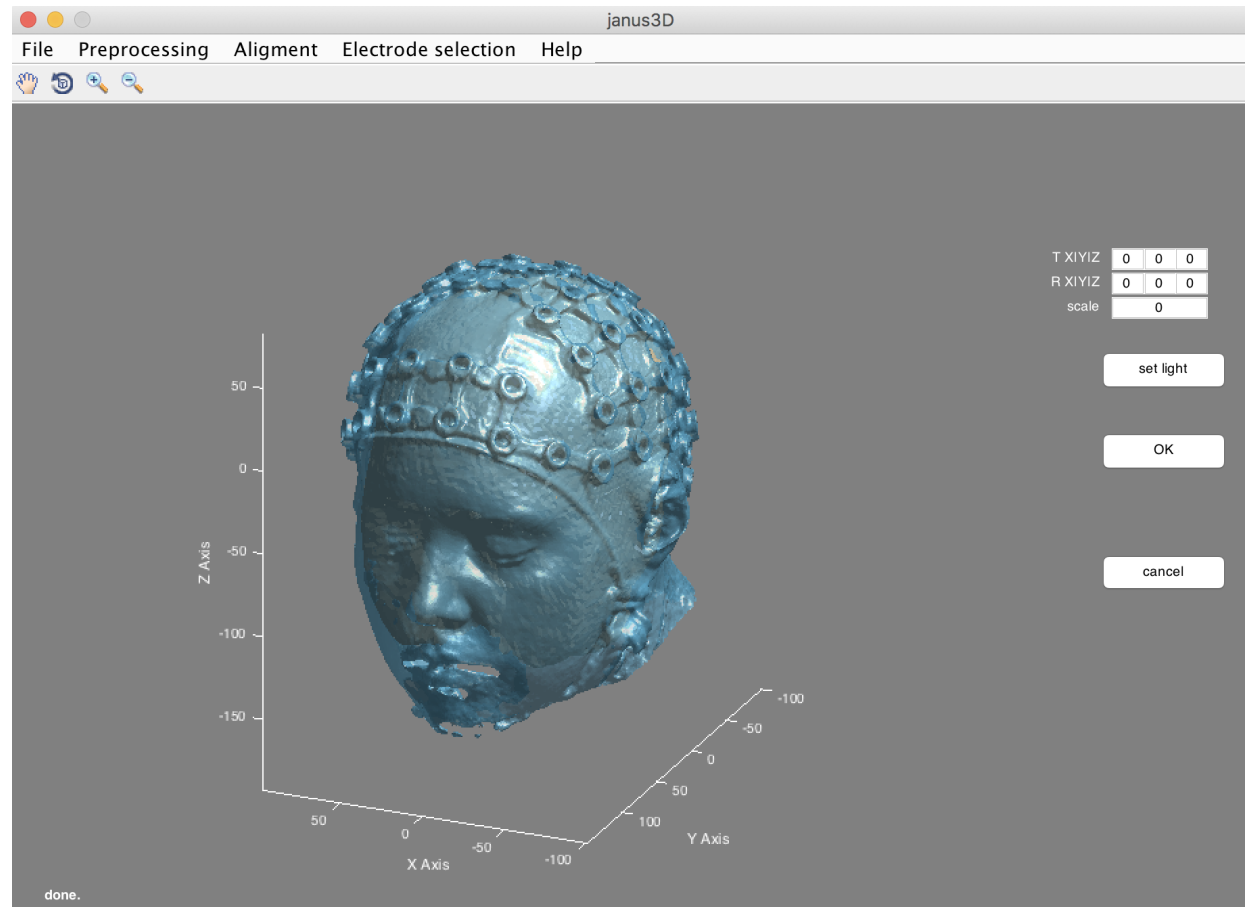

Figure 40. Manual correction of alignment
8. Correct the alignment if necessary. On the right side of the screen you will find the T (location), R (rotation) and scale (size) settings to move your 3D model (Figure 40). Adjust the model until it fits onto your MRI scan. If you need to use the scale option to increase the size of your